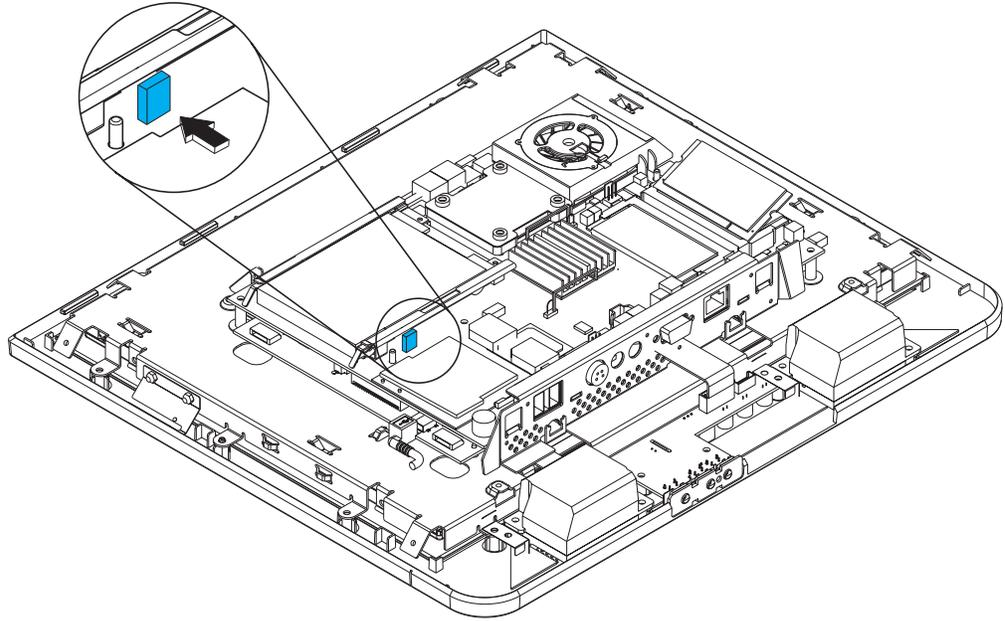

Figure 19. Location of the CMOS jumper
2. Locate the blue CMOS jumper on the main planar assembly. See Figure 19. The jumper is located near the hard drive and beside the radio card.